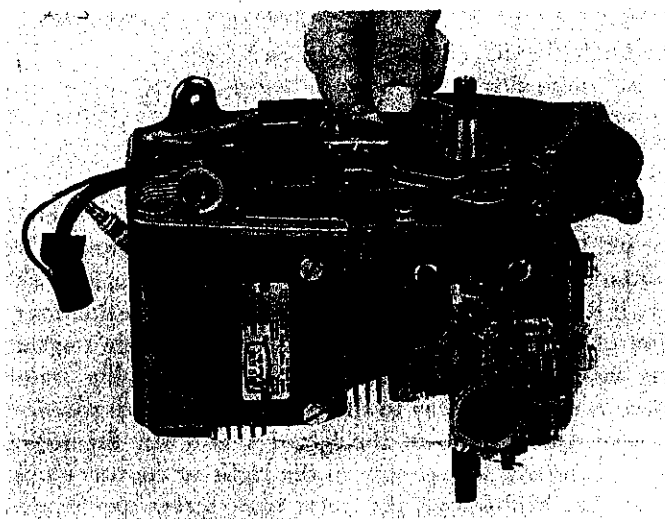

FIGURE 5. REMOVING BREAKER POINTS
7. Remove breaker point assembly as shown in Fig. 5. Check the breaker points. The points should have a white, frosty appearance. If burned or pitted, replace. DO NOT FILE BREAKER POINTS. Use new parts.